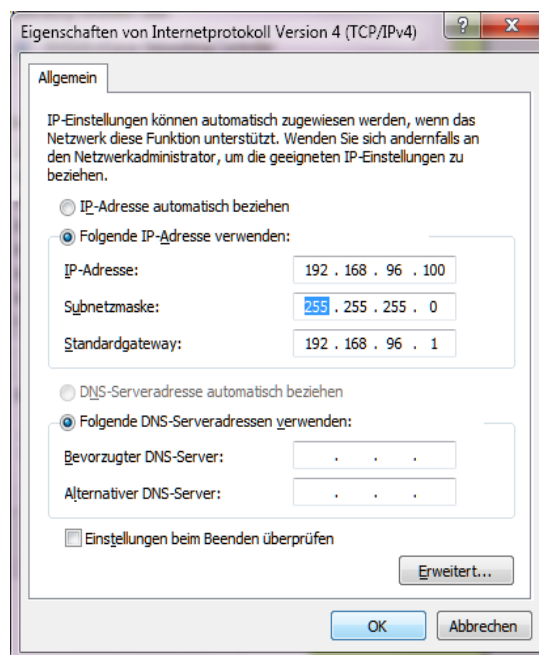

Figure 5: PC's static IP-Configuration
3. Choose the following IP configuration for your PC (see Figure 5).